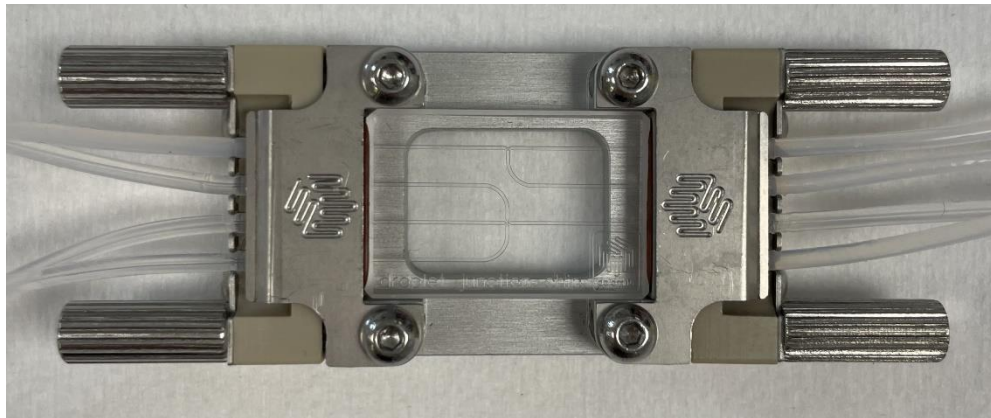

Figure 27 Chip Assembly
Step 4: Tighten each side of the Linear Connector evenly until hand tight. No tools should be used to tighten the Thumbscrews. Ensure that the Chip remains in place while tightening to prevent this from falling out before fully sealed (Figure 27).